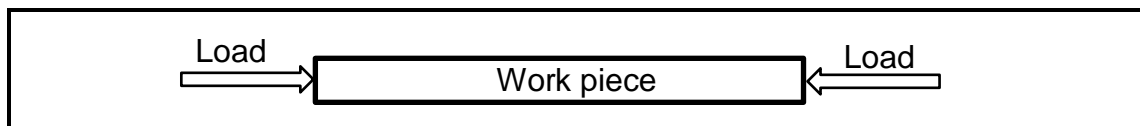

FIGURE 4.6
- 4.6 Identify the type of load applied to the work piece in FIGURE 4.6 below.